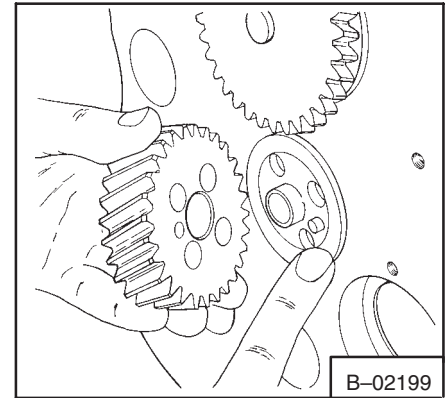

Fig. 7B-99 Removing Crankshaft Gear
5. Remove the center main bearing from the crankshaft (Fig. 7B-101).